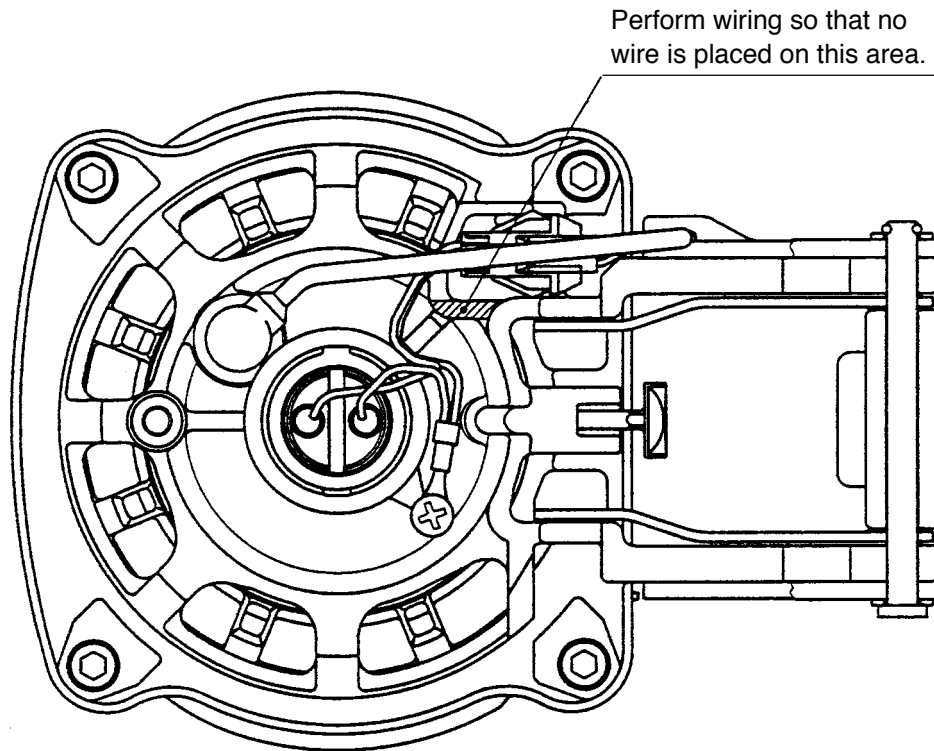

Fig. 25
- Perform wiring as shown in Fig. 25.